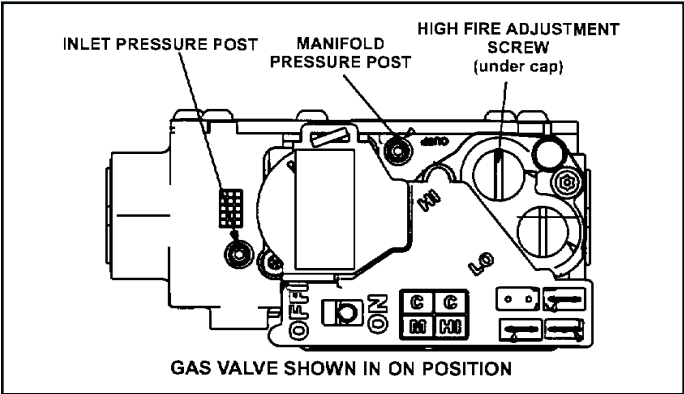

Figure 61. Gas Valve Shown In “ON” Position
6. Move gas valve switch to OFF. See Figure 61.
8. Move gas valve switch to ON. See Figure 61.
1. A manifold post located on the gas valve provides access to the manifold pressure. See Figure 61. Back out the 3/32 Hex screw one turn, connect a piece of 5/16" tubing and connect to a manometer to measure manifold pressure.